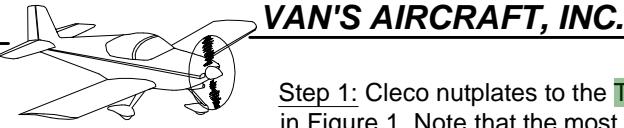

**FIGURE 2: TANK SKIN, J-STIFFENER,
Step 4: Fit and drill the T-406B Fuel Cap Flange and T-1008 Vent Clip to the T-1001-L Tank Skin as shown in Figure 2. Use the T-406A Fuel Cap as a guide for centering the fuel cap flange in the tank skin opening.